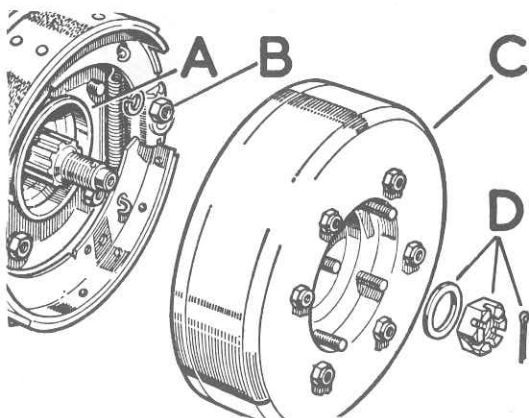

Fig. 9.15. Transmission brake drum and output drive flange removed
- Note:** If difficulty is experienced in removing or refitting any of the transmission brake components it may be necessary to remove the propeller shaft as described in Chapter 7. Then undo the large castle nut and withdraw the output shaft flange complete with drum (see Fig. 9.15).